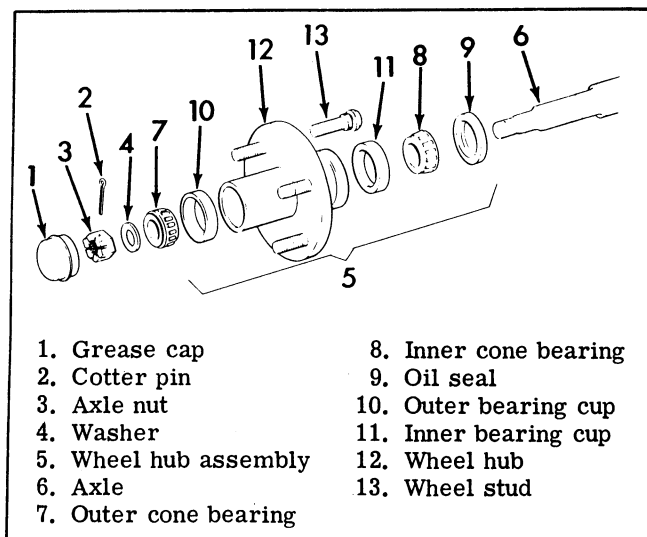

Figure 2-25. Front Wheel Hub, 4 Wheel Car - Exploded View
#### 4 WHEEL MODELS (See Figure 2-25)
To remove wheel hubs, Figure 2-25, remove grease cap (1), cotter pin (2), castle nut (3), and flat washer (4). Remove hub assembly (5) from axle (6).